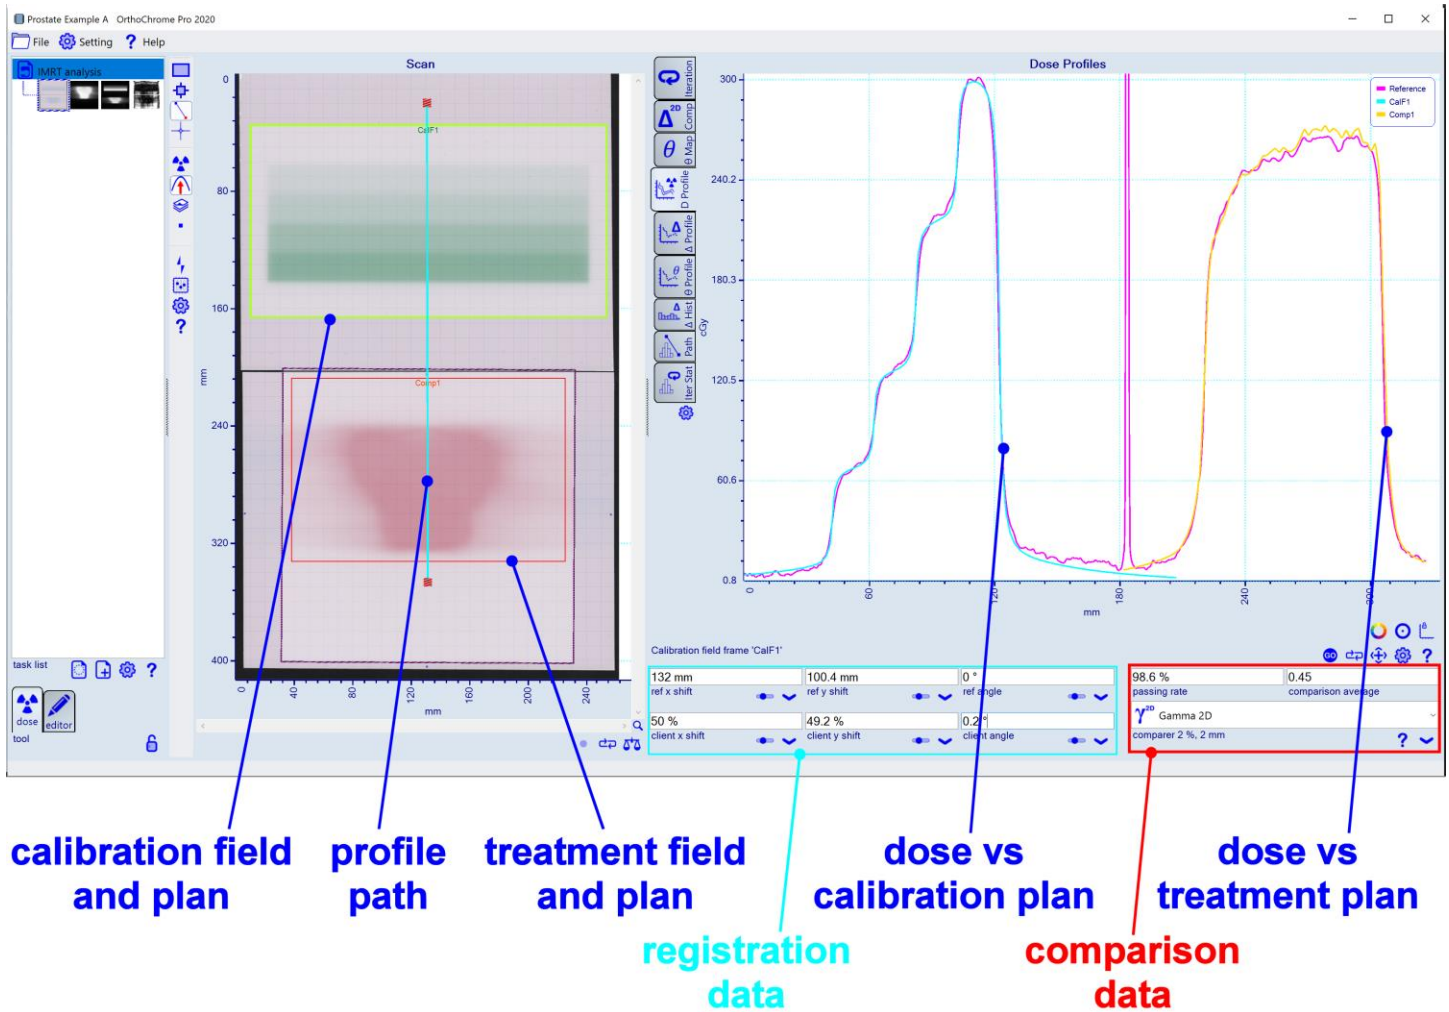

Figure 10: OrthoChrome Pro allows automated Calibration, Dose map generation and Treatment plan comparison all in one panel.
- Calibration is based on single exposure dose field, usually a step wedge generated by overlaid flat fields. As shown in Figure 10 calibration was done with a wide 4 level wedge to calibration each scanner pixel lane separately compensating scanners sensor to sensor variations.
- Calibration, dose map calculation and plan comparison are carried in one simple step and all data are presented simultaneously on screen (see Figure 10).
- Data evaluation is using an automated all on one screen analysis as shown in Figure 10. The multi-threaded 64-bit architecture of OrthoChrome Pro ensures enough resources to handle even high resolution analysis with ease.